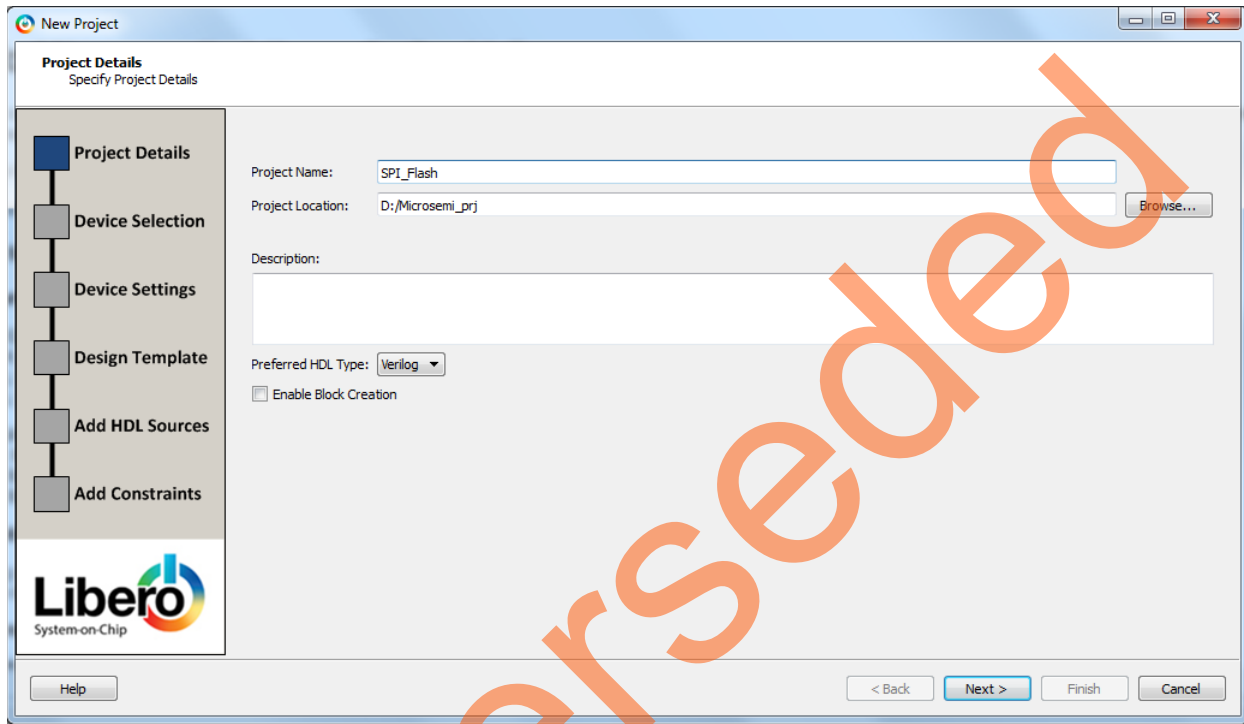

Figure 3 • Project DetailsPage
3. Enter the following information in the **Project Details** page, as shown in Figure 3.